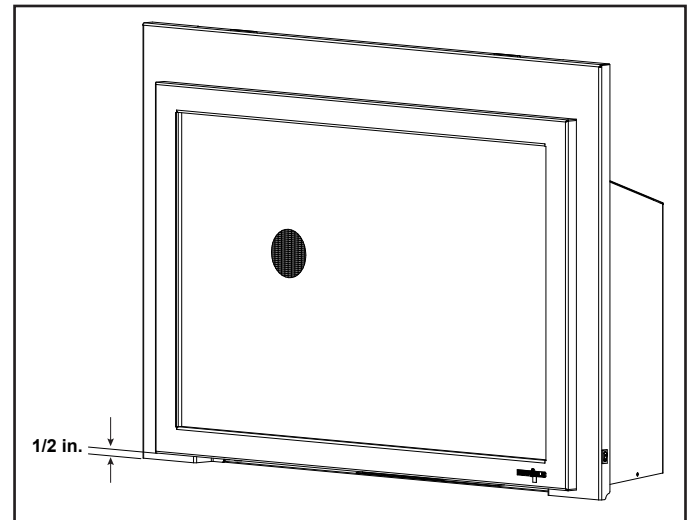

Figure 3.17 Minimum Required 1/2 in. Gap to Bottom of Front
- 1/2 inch gap under the bottom of the front must be maintained. See Figure 3.17.